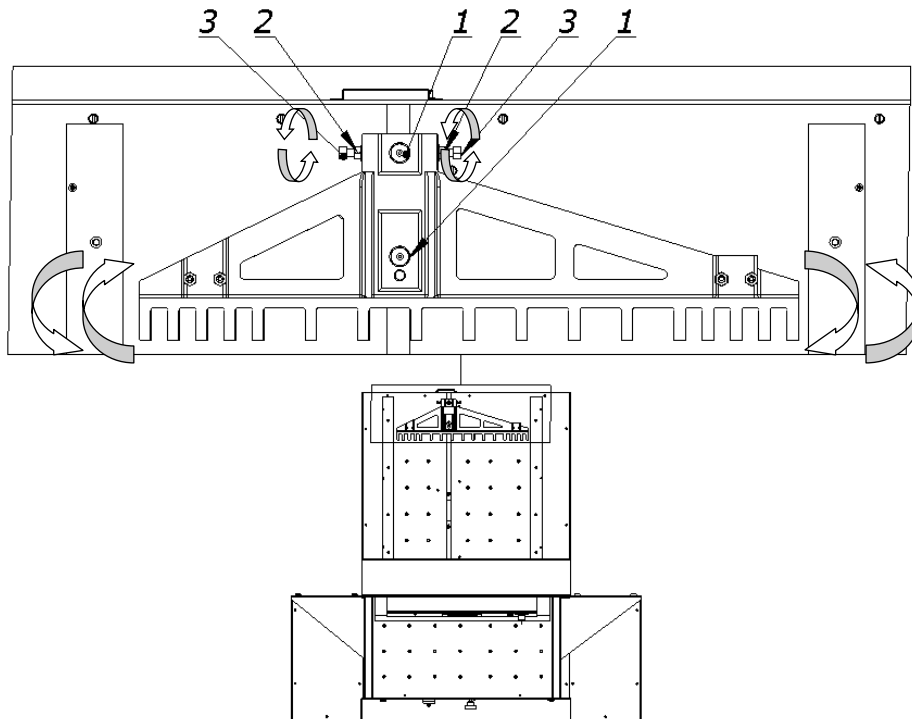

Figure 43. Elements of the backgauge
8.4.3 loosen the screws 1 (Fig. 43)
8.4.4 loosen the nuts 2 (fig.43)
8.4.5 by turning the screws 3, place the backgauge 4 (fig. 43) at the right angle
8.4.6 lock the adjustment screws with 3 nuts 2 (fig. 43)
8.4.7 firmly tighten the screws 1 (fig.43)